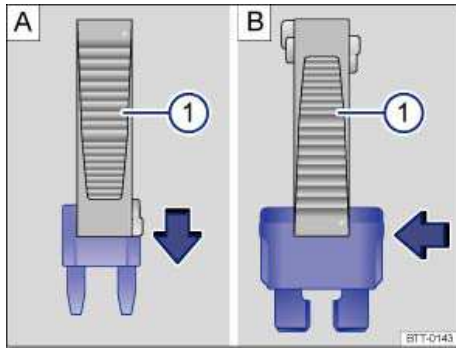

Fig. 203 Removing or inserting a fuse using the plastic tweezers.
- For *small fuses*, slide the tweezers ⇒ fig. 203 (1) onto the fuse from the top **A**.
- For *larger fuses*, slide the tweezers ⇒ fig. 203 (1) onto the fuse from the side **B**.